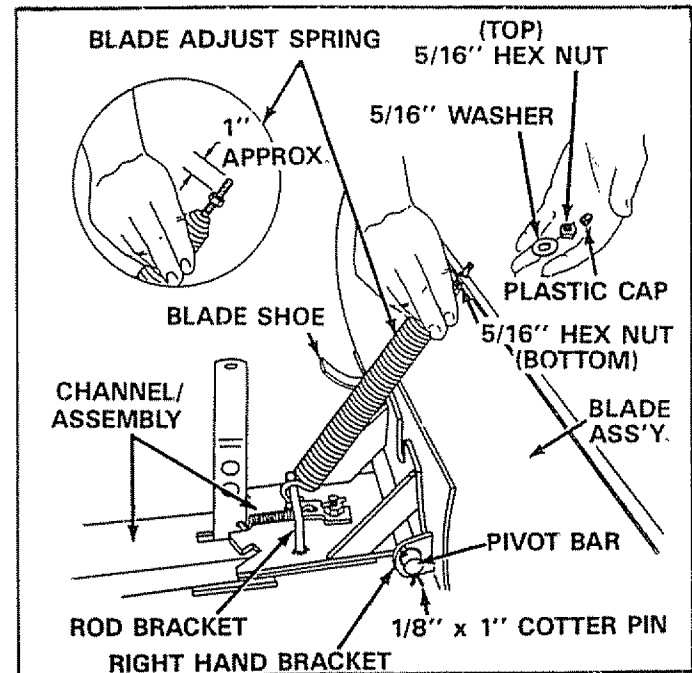

FIGURE 9
- Assemble blade assembly to channel assembly by sliding one end of pivot bar into right hand bracket and then sliding back into left hand bracket. See figure 9. Secure by assembling two 1/8" x 1" cotter pins into small holes near ends of pivot bar. Spread ends to retain.
- To assemble blade adjust spring, remove plastic cap, 5/16" flat washer and one 5/16" hex nut. Adjust the remaining 5/16" hex nut on the long bolt to approximately one inch down from end of bolt threads. Assemble adjusting bolt through hole in top edge of blade and hold in place with 5/16" flat washer and 5/16" hex nut removed earlier. **Do not tighten 5/16" hex nut at this time.** Push down on the spring and hook end of spring over rod bracket as shown in figure 9. Tighten 5/16" hex nut on top edge of blade down against the bottom 5/16" hex nut. Replace plastic cap over end of adjusting bolt threads. See figure 9.